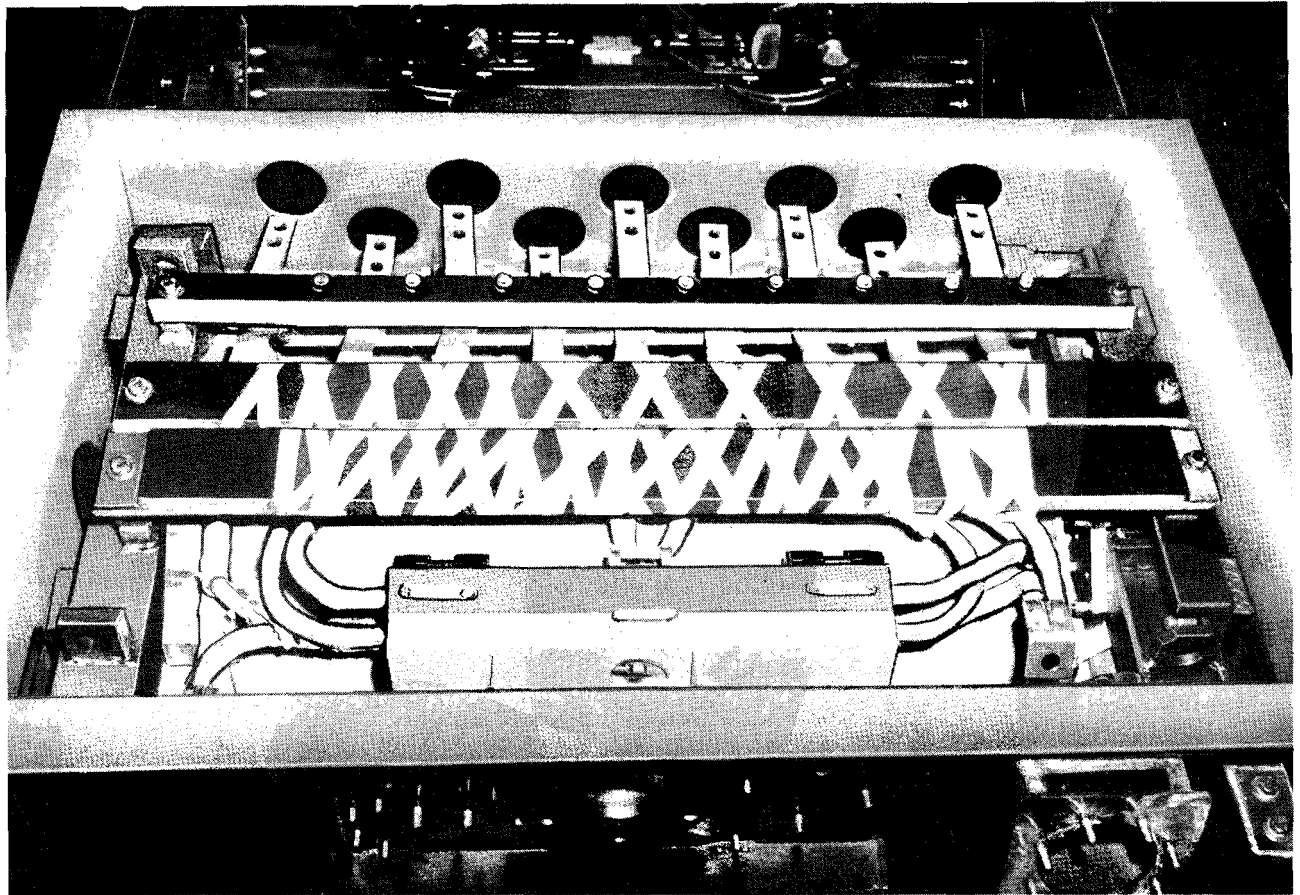

FIG. 16-10. CORE READY FOR REMOVAL. E-18807
4. Remove all bushings (6, Fig. 16-1 and 7, 16-2) so that the leads will be free when the core and coils are being lifted from the tank, see figure 16-10. Refer to GET-3535 for the method of removing the bushings.
6. Remove the core and coils (Fig. 16-10) from the tank for inspection, being careful to pull the leads from the bushing openings as the core and coils are being removed. Refer to the following procedure and figure 16-4 to remove the core and coils.